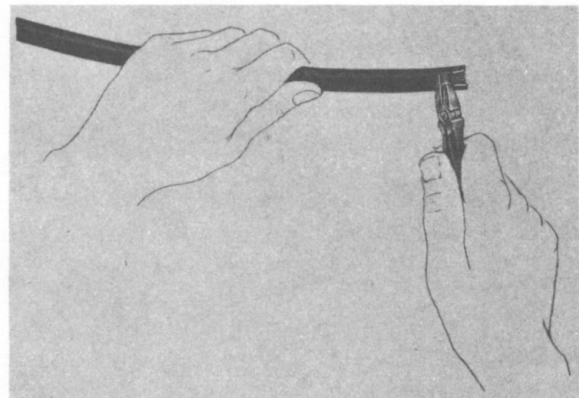

Fig. 4—Rolling the Jacket with Diagonal Pliers
- Grip the jacket at the wire end with diagonal pliers and roll the jacket back on itself as illustrated in Fig. 4.